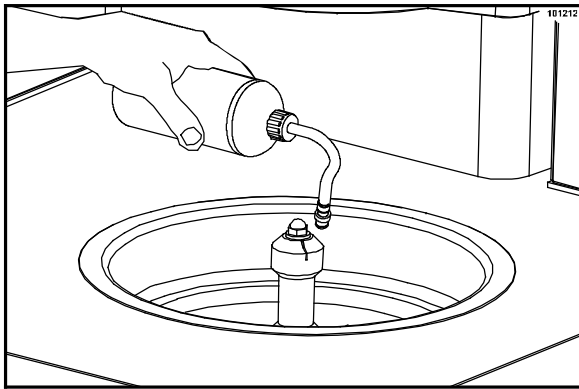

Figure 57
28. Using the squeeze bottle filled with cleaning solution, thoroughly flush the rinse station area. (See Figure 57.)